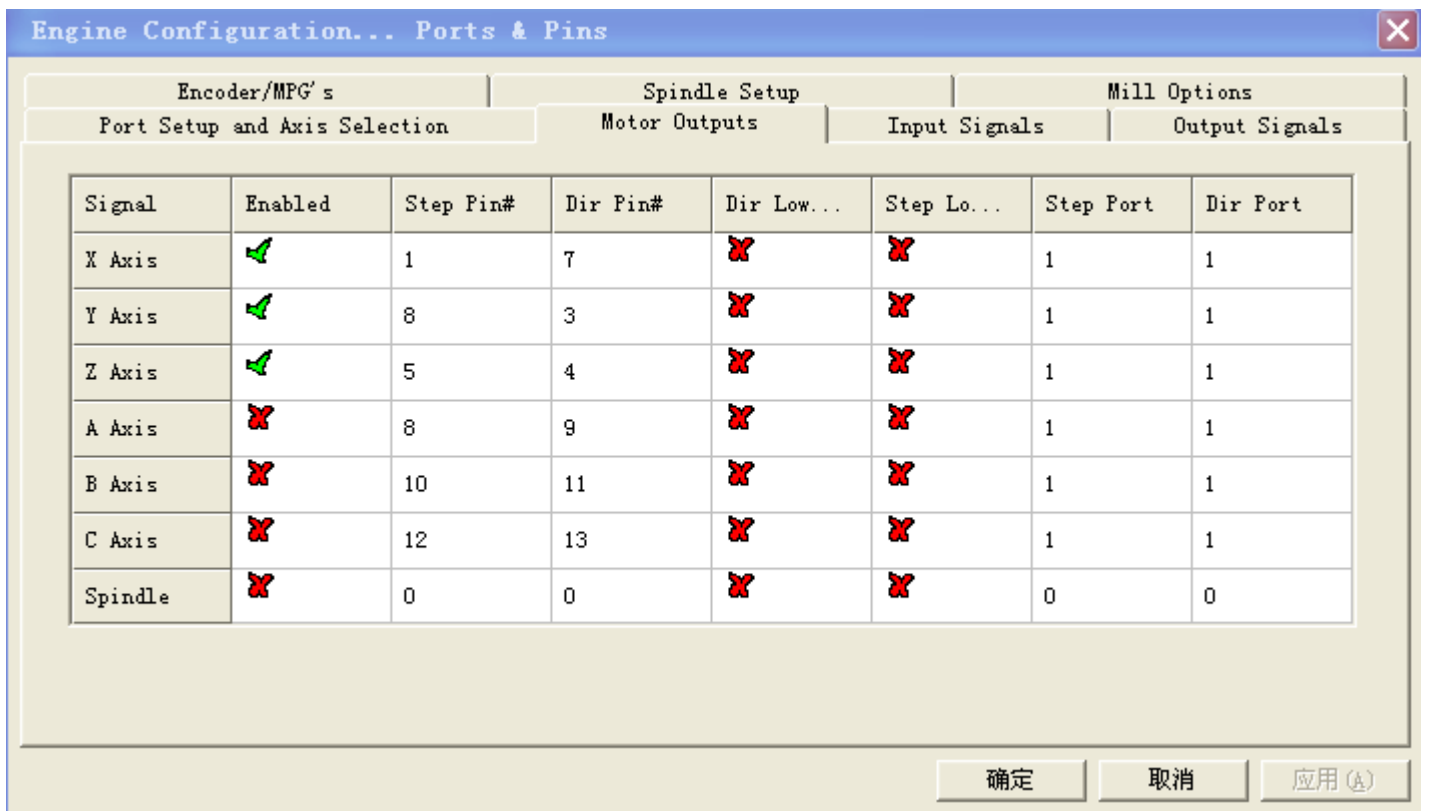

Fig.5
To set up the basic frequency within the above Circle 1. This parameter will affect the rotational speed of the motor. After the setup of basic frequency, select Circle 2 where *Configuration Scripting* will be defined, please refer to Fig.5.
- Please double check the software settings according to the Fig.5 and Fig.6